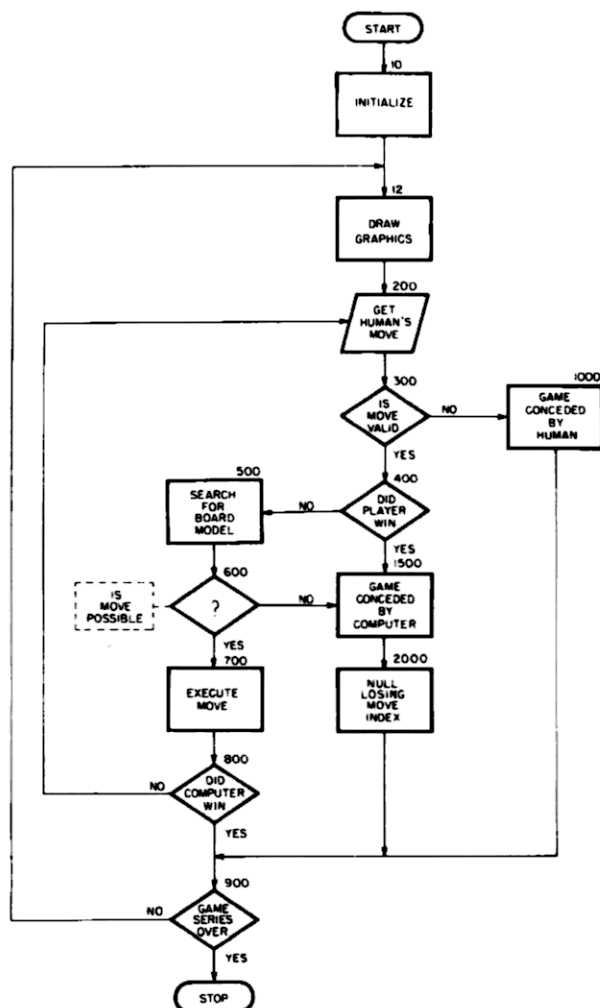

Figure 1. Program flowchart.
*Scientific American*. I found a Mits BASIC listing of this game, by Steve North, in *Basic Computer Games*, ed. David H. Ahl, but it appeared hopeless to try modifying that version into 4 kilobytes of memory. Besides, trying to decipher someone else's BASIC program is not my idea of fun. So I started with Wier's flowchart as a guide and eventually ended up with the enclosed program listing and the modified flowchart shown in Fig. 1.